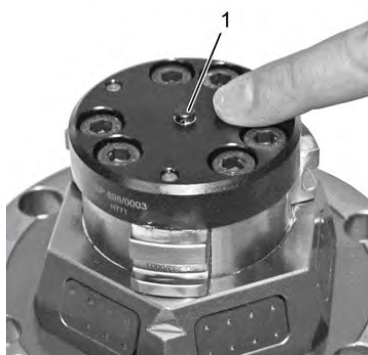

Fig. 21
6. Insert the screws [Fig. 21/1] and tighten with the allen wrench.